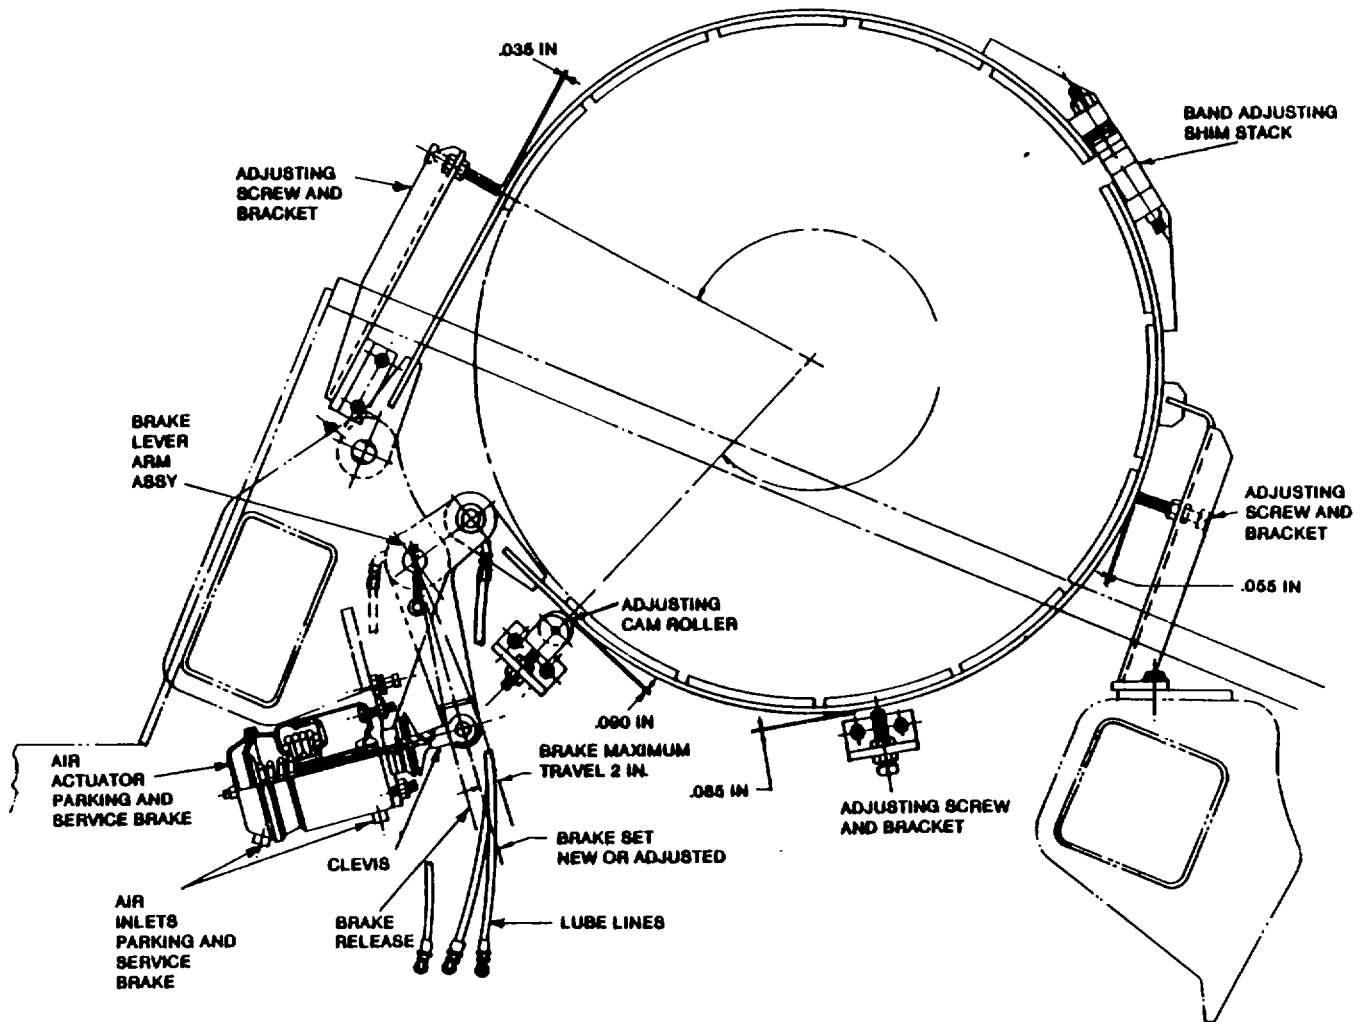

Figure 4-7. Drum Brake Assembly.
- b. All drum brake components, except brake band attaching hardware are interchangeable. Refer to figure 4-7.